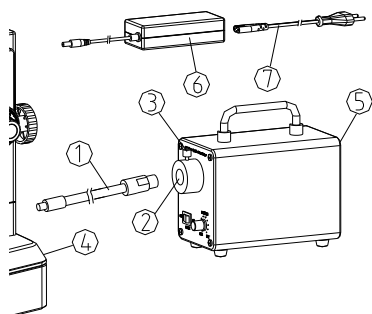

Fig. 12
- 1) Make sure the main switch is at "O" (OFF) position. (See Fig. 12)
- 2) Insert one end of the optical fiber ① into the inner hole ② of the power supply box to the bottom, and align the flat surface with the lock screw ③, then lock it with the lock screw ③.
- 3) Insert the other end of the optical fiber ① into the hole of the base ④, then lock it with the lock screw.
- 4) Insert one end of the power adapter ⑥ into the inner hole ⑤ of the power supply box.
- 5) Insert one end of the power cable ⑦ into the corresponding hole of the power adapter ⑥, and the other end into the power supply socket.